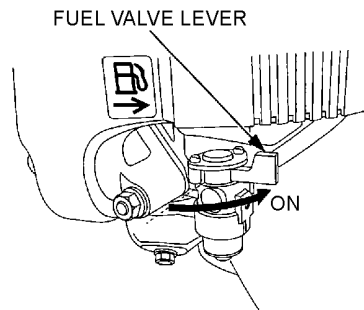

Figure 8. Engine Fuel Valve Lever (ON)
- Place the engine fuel valve lever (See Figure 8) to the **ON** position.
- Make sure that the engine fuel valve lever is in the **ON** position (Figure 8).
2. Make sure that the engine fuel valve lever is in the **ON** position (Figure 8).